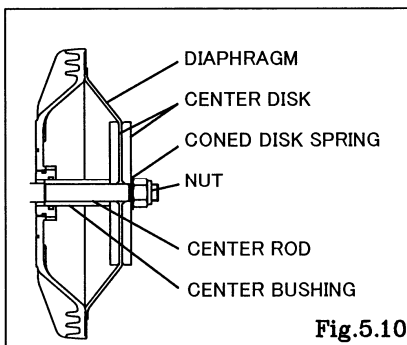

Fig.5.10
Keep the convex side to the outside for TPEE, TPO diaphragms. [Fig.5.10]
- Draw the center disk to one side (exclude B□H, B□S, B□H/T types cf. Fig.5.10).and install the out chamber. tighten the bolts temporarily.